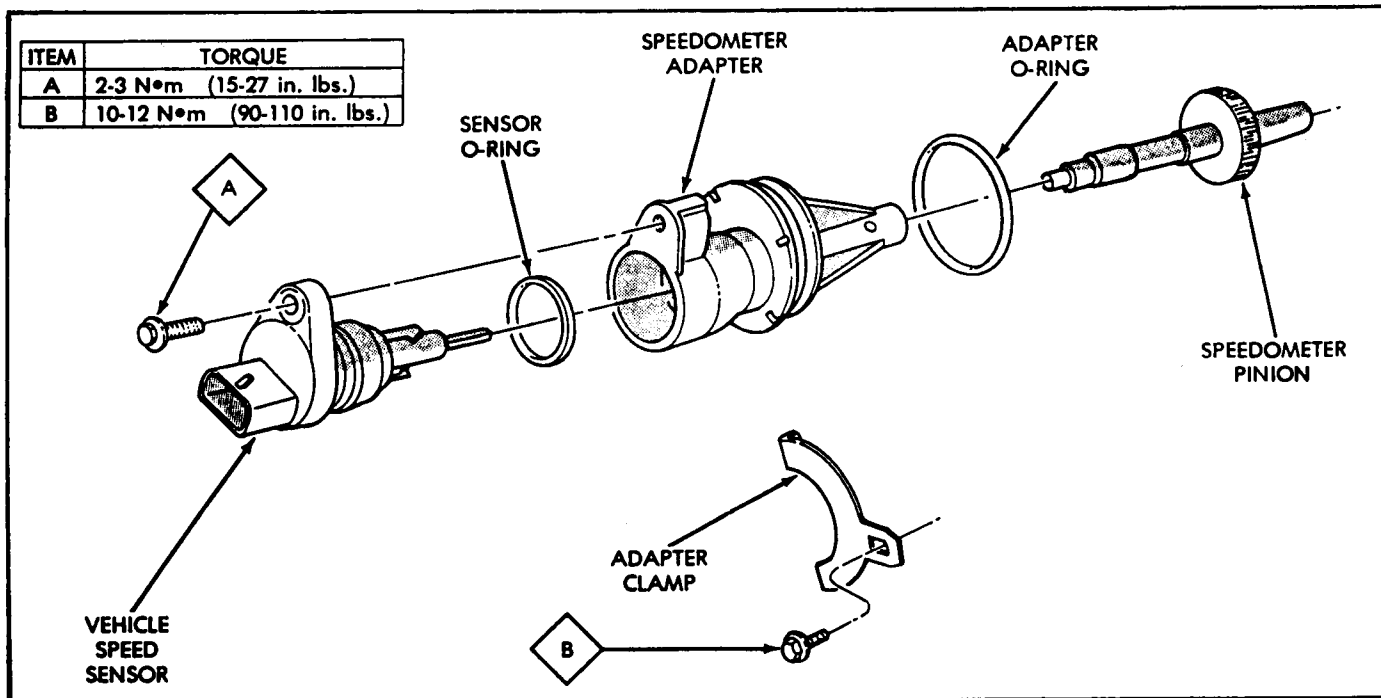

Figure 50
2. Install new "O" rings on vehicle speed sensor and speedometer adapter, shown in Figure 50.
4. Install vehicle speed sensor in adapter and torque screw to 15-27 in.lbs. (See Figure 50).
6. Install the speedometer pinion in the speedometer adapter (See Figure 50).